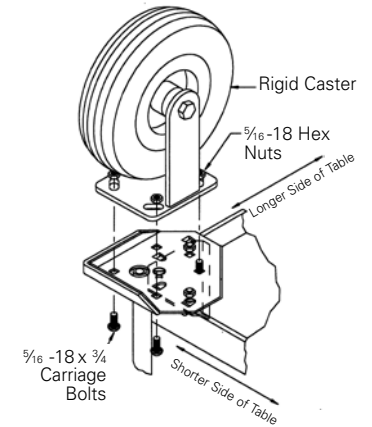

Figure 5
6. Tighten hex nuts (Figures 5 and 6).